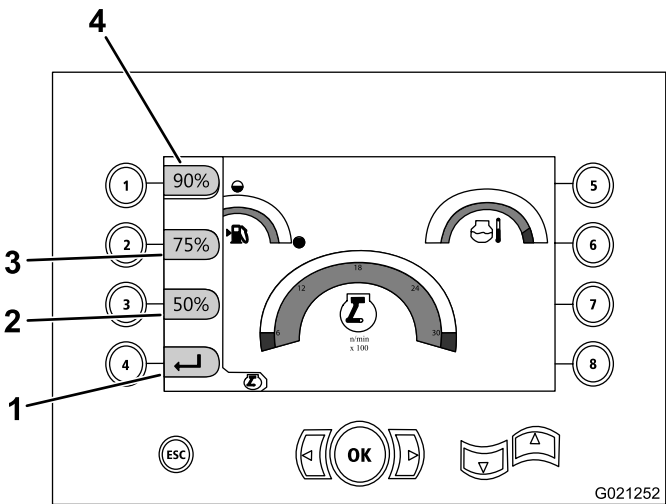

Figure 19
- Press button number 1 to activate 90% engine speed (rpm) as shown in Figure 19.
- Press button number 2 to activate 75% engine speed (rpm) as shown in Figure 19.
- Press button number 3 to activate 50% engine speed (rpm) as shown in Figure 19.
- Press button number 4 to return to the main-operating screen (Figure 19).